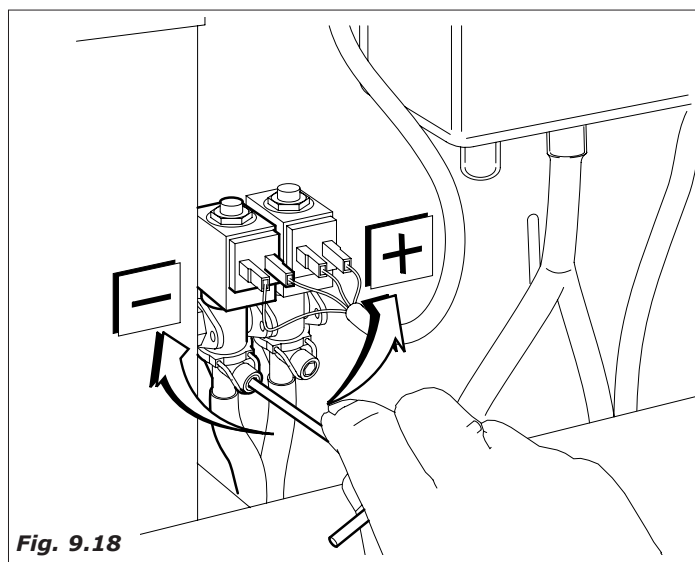

Fig. 9.18
- So as to obtain a thorough rinsing of the bowls eventually turn the solenoid valves water delivery screw. (Fig. 9.18).